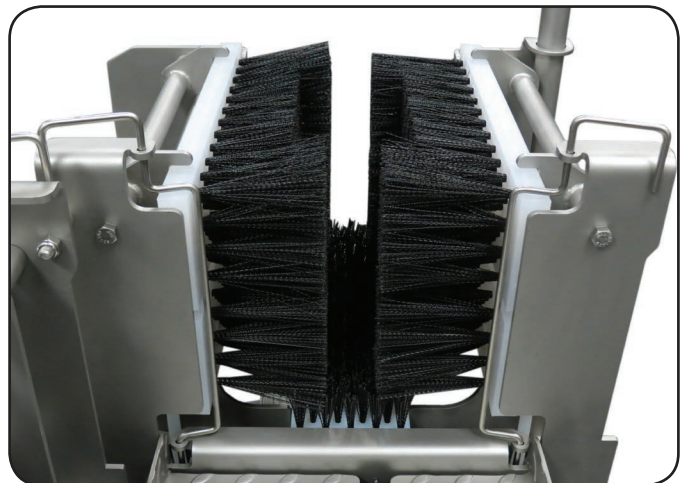

Figure 10
1. The brushes are held in place by the brush clip at the front of the unit (Figure 10).